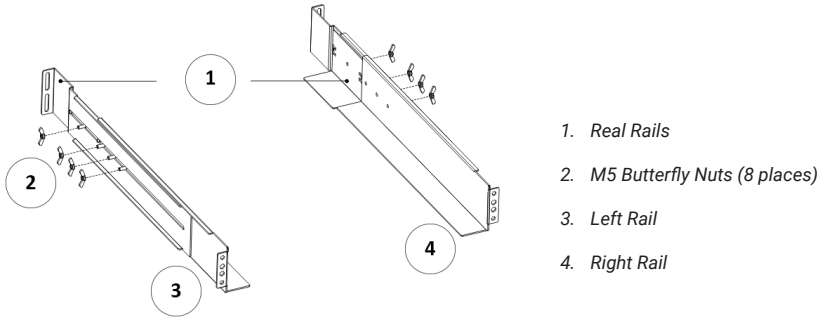

FIG 3: Securing the Rails
1. Assemble the left and right rails to the rear rails as shown in FIG.3. Do not tighten the screws. Adjust each rail size for the depth of your rack.
3. Tighten four M5 Umbrella Nuts in the side of rail assembly (see FIG. 3).